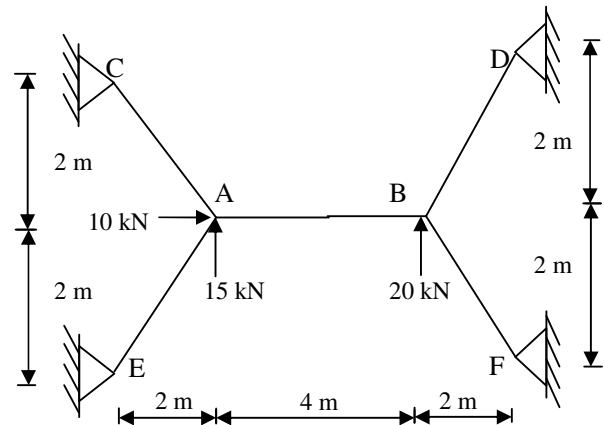

Figure 4
- Q.3** (a) A Space truss as shown in fig. 4 is supported at C, D, E, and F in a horizontal plane through a hinge joint. The member AB is horizontal and is at a height of 4 m above the base. The loads at the joint A and B, shown in figure act in a horizontal plane. Find the forces in all the members of the truss by using method of Tension co-efficient. **07**